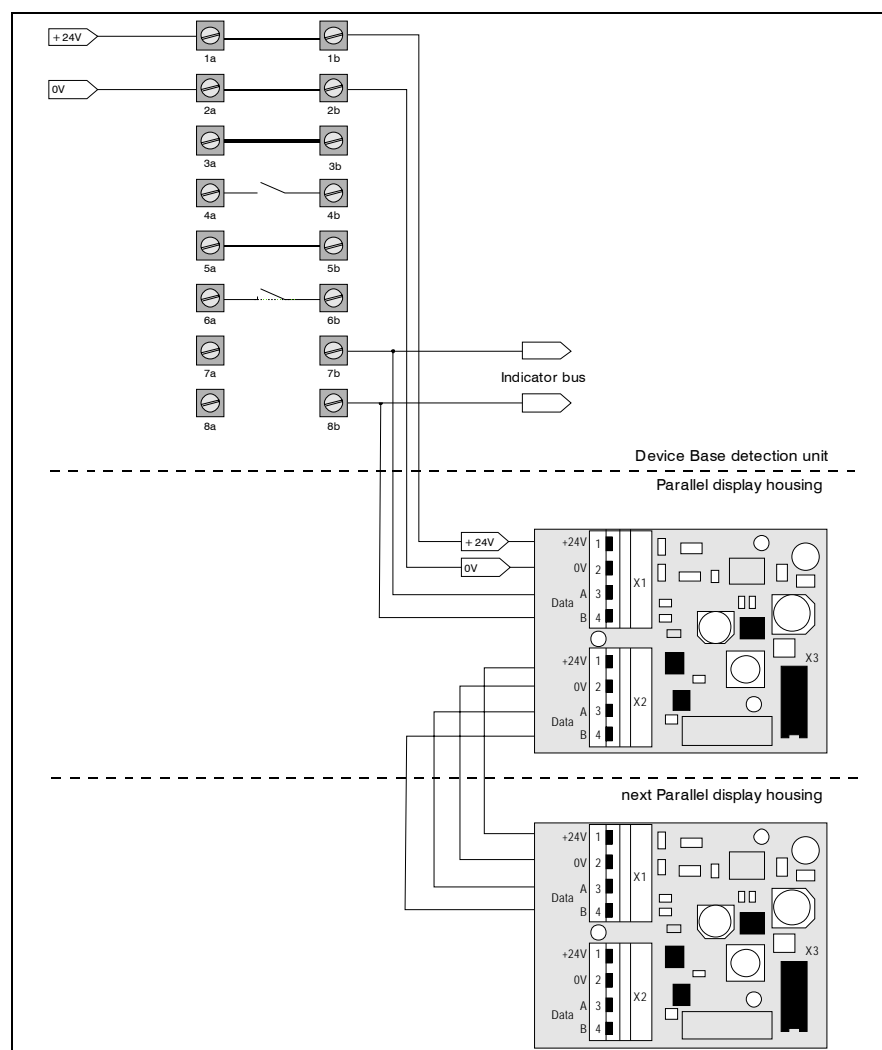

Fig. 5.25: Connecting the parallel display to TITANUS MICRO·SENS®
- ❶ Using a screwdriver loosen the four screws on the TITANUS MICRO·SENS® detection unit.
- ❷ Feed the fire alarm cable through the cable entry on the TITANUS MICRO·SENS® device base unit.
- ❸ Feed the wires to the terminal block on the base unit according to the switching plan (see Fig. 5.25).
- ❹ Refit the detection unit by using a screwdriver to screw the four screws on the detection unit of the device cover down firmly.